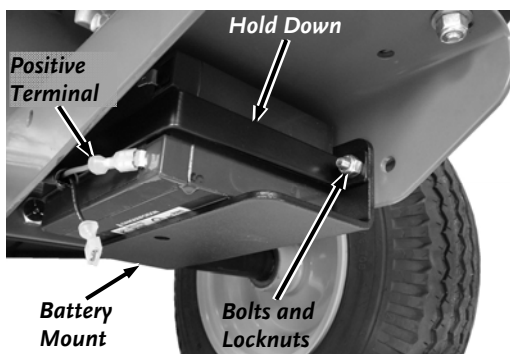

Figure 21
34. Rotate the Mount and Battery into position and install the second mounting Bolt, Washer (each side) and Locknut. Tighten both sets of Hardware using two 7/16" Wrenches (**Figure 21**).